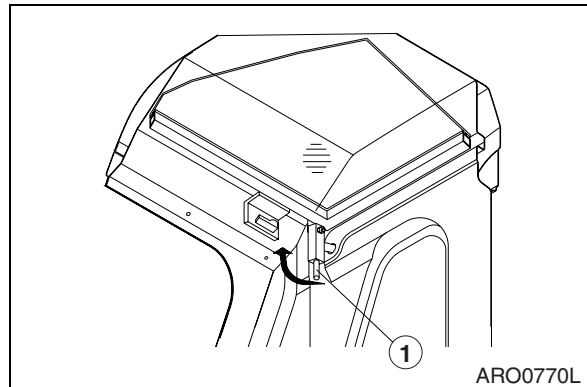

Figure 95
3. Unlock it pulling the lever (1, Figure 95) up (in direction of allow).